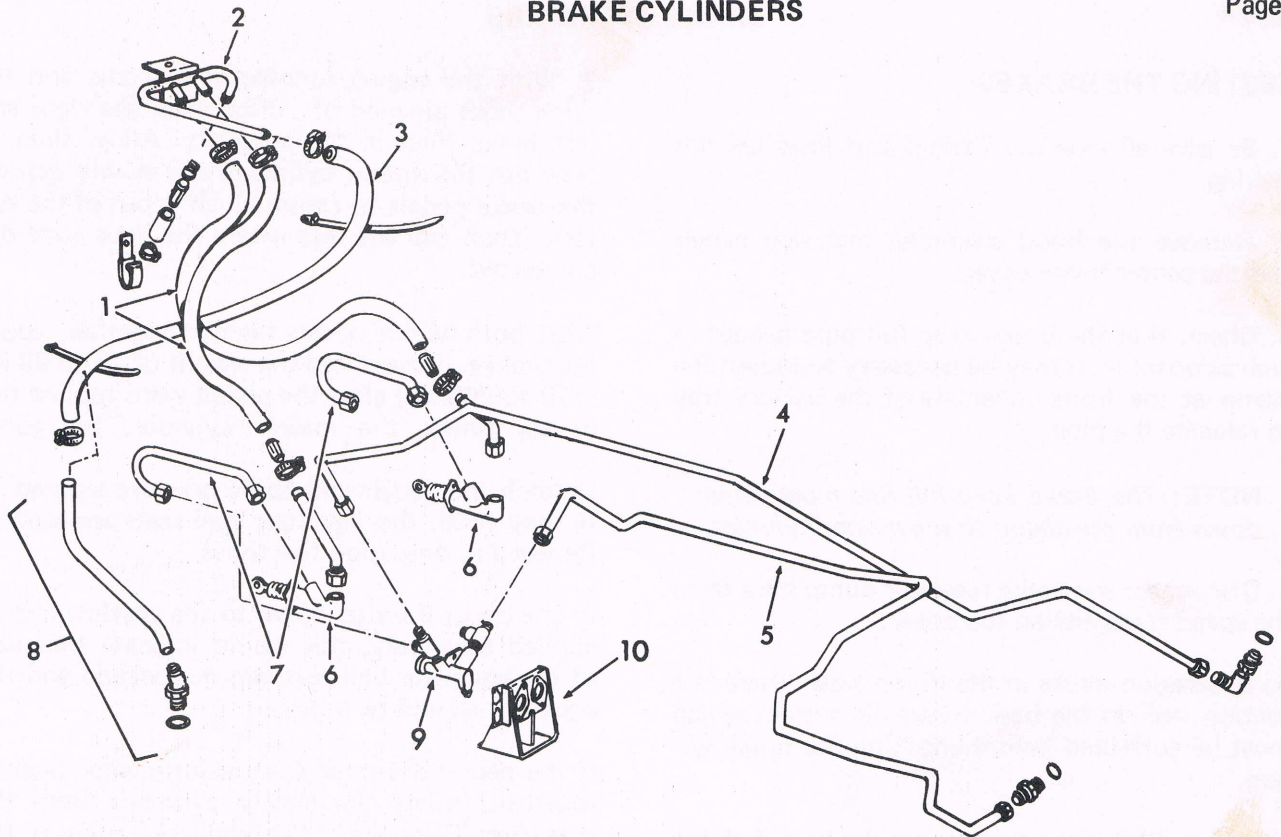

Fig. 1
1. To remove the entire assembly, remove the battery and battery box lower plate. Disconnect the lines to the right and left brakes. Disconnect the oil cooler return line at the hose connection to keep-full line. Disconnect the oil cooler return hose assembly from clutch housing top cover. (See Fig. 1).